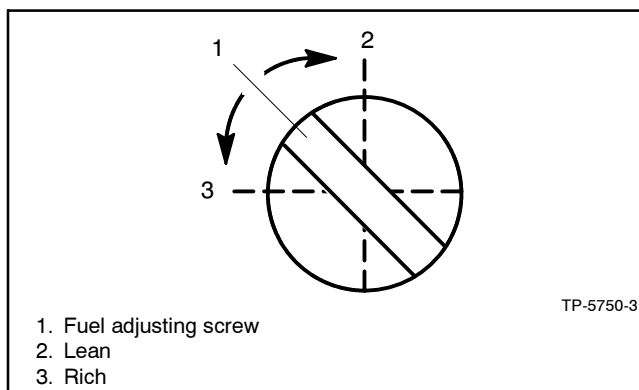

Figure 7-7 Fuel Mixture Adjustment, Typical
2. **Preliminary Setting:** Turn main fuel adjusting needle out (counterclockwise) 1 1/2-2 1/2 turns. Turn the idle mixture adjusting needle (if used) out (counterclockwise) 1/2-1 turn. See Figure 7-7.
2. Adjust the engine fuel mixture screw (Figure 7-7) until the engine runs smoothly.